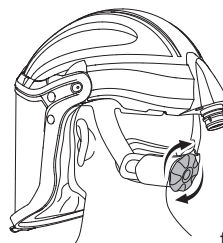

fig.1b
Step 2 : Adjust the back headgear knob until the face shield fixed on the head properly (See fig.1b).